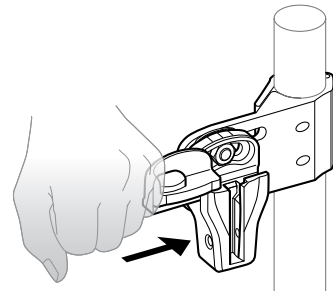

Fig. 13
3. Slide the left and right Slide Caps closed, towards the shell. *Fig. 13*